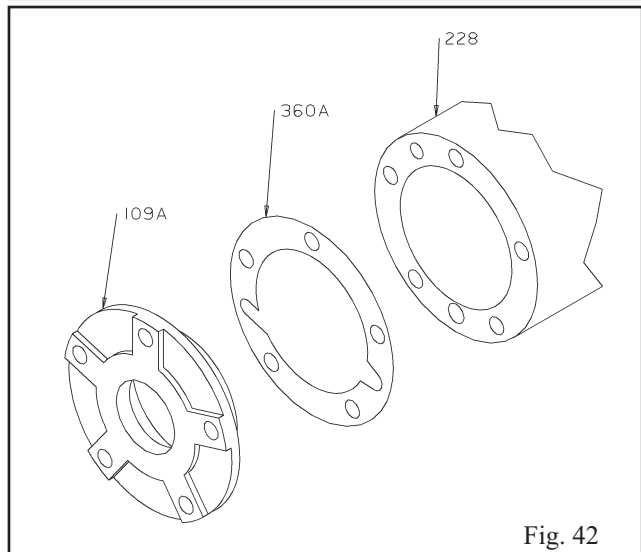

Fig. 42
12. Check shaft (122) for free turning. If rubbing or binding is detected, determine cause and correct.
13. For SX, MX, LA, and XLX pumps, install three (3) thrust bearing end cover shims (390C) on the thrust bearing end cover (109A) and align holes. For SA pumps, install three (3) thrust bearing end cover gaskets (360A) on the bearing end cover (109A). Align the gasket to the end cover so that the openings in the gaskets align with the oil grooves on the end cover (Fig. 42).